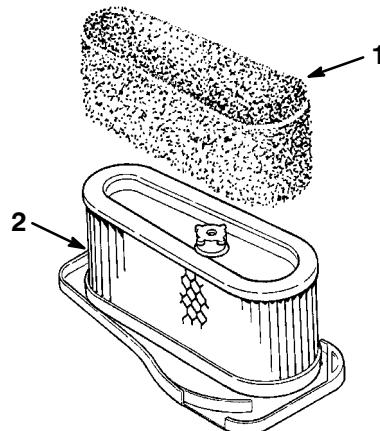

Figure 25
4. Carefully slide the foam element off the paper element (Fig. 25).
1. Carefully slide the foam element onto the paper air cleaner element (Fig. 25).